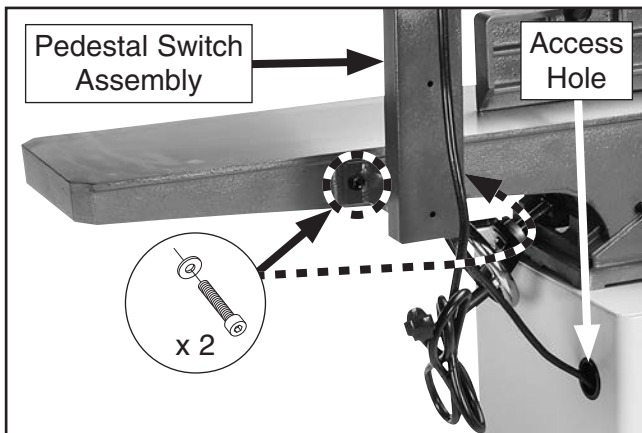

Figure 25. Pedestal switch attached to stand.
22. Mount pedestal switch assembly to jointer with (2) pre-installed M8-1.25 x 20 cap screws and flat washers (see **Figure 25**).
23. Thread excess switch cord through access hole in cabinet stand (see **Figure 25**), and connect it to motor cord.